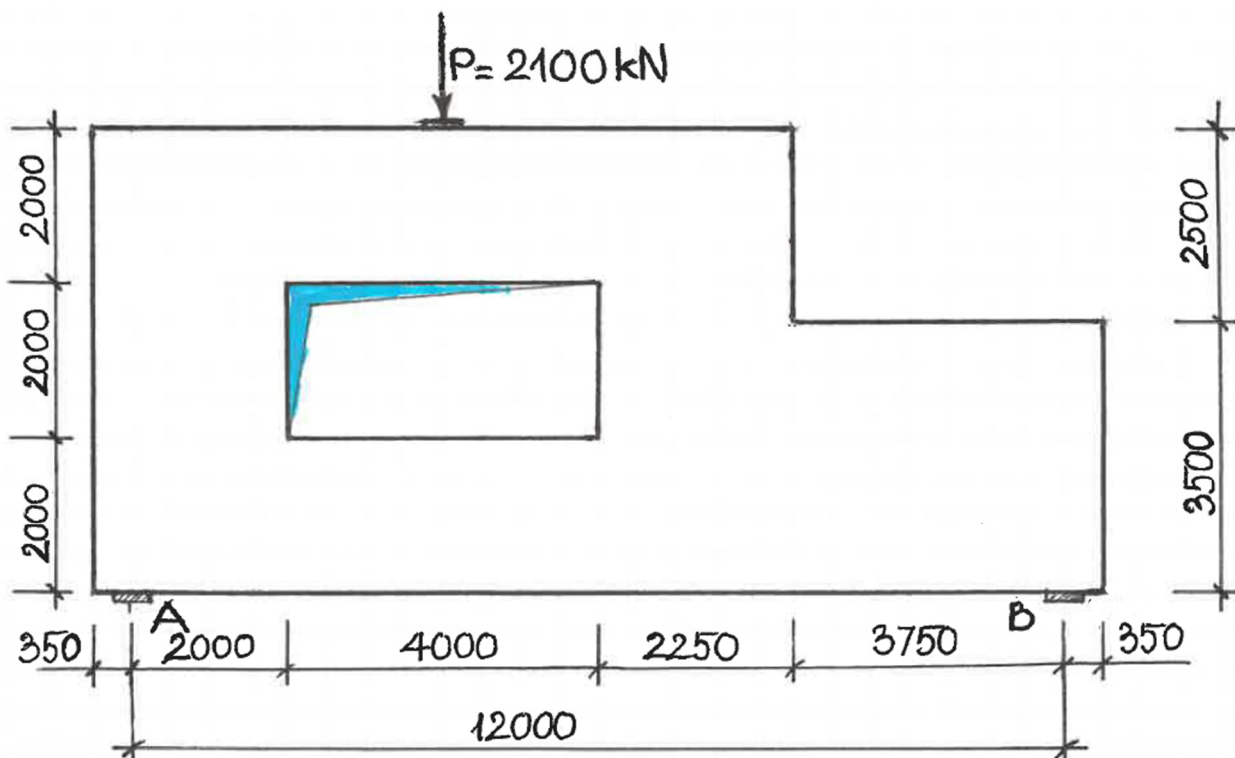

Figure 2. A simply supported deep beam with opening and varying depth.
- (ii) A simply supported deep beam with opening (Figure 2). The beam width is 400 mm. (20 marks)